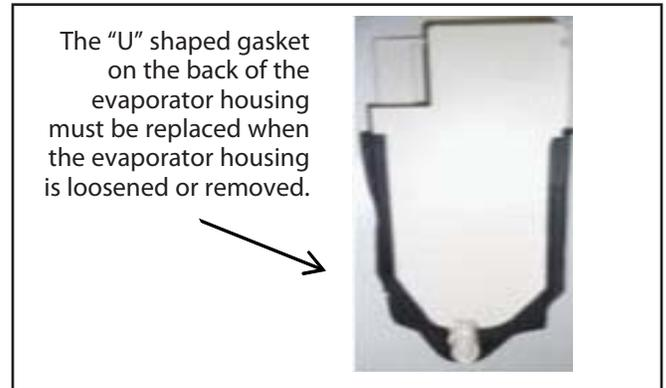

Figure 6-66
1. Check all the gaskets on the Evaporator Housing. Replace any that are deformed or damaged. The rear-most “U” shaped gasket must be replaced. Figure 6-66.